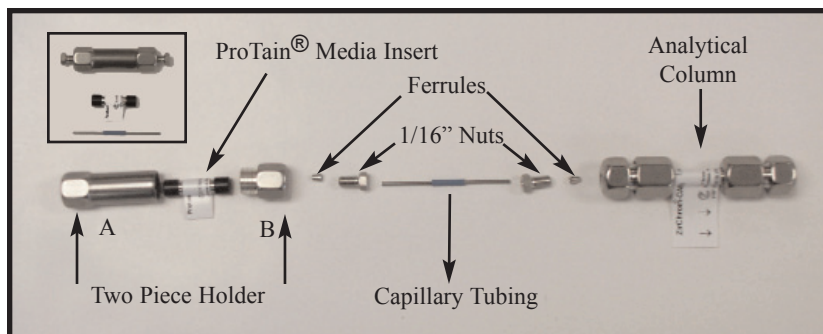

Figure 1: Description of Parts
1. Remove nuts and ferrules from the ends of the two piece holder (see insert in figure 1). Position items as shown in figure 1.